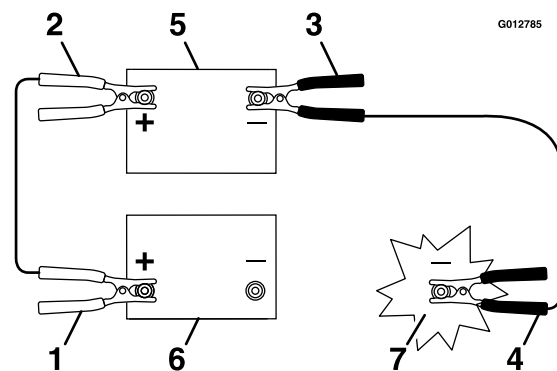

Figure 28
3. Connect the positive (+) cable to the positive (+) terminal of the discharged battery that is wired to the starter or solenoid as shown in Figure 28.